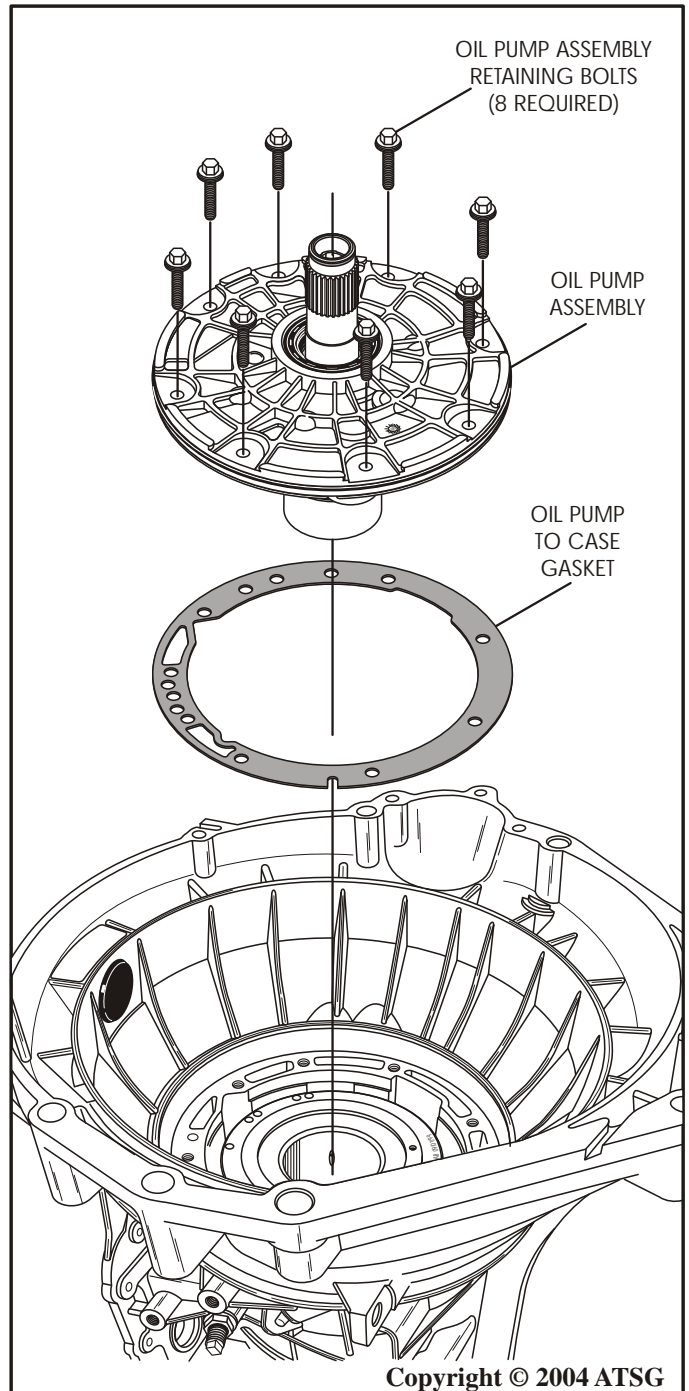

Figure 36
28. Remove the eight oil pump retaining bolts, as shown in Figure 36.
29. Using the special pump removal tool and your slide hammer, remove the oil pump assembly, as shown in Figure 36.